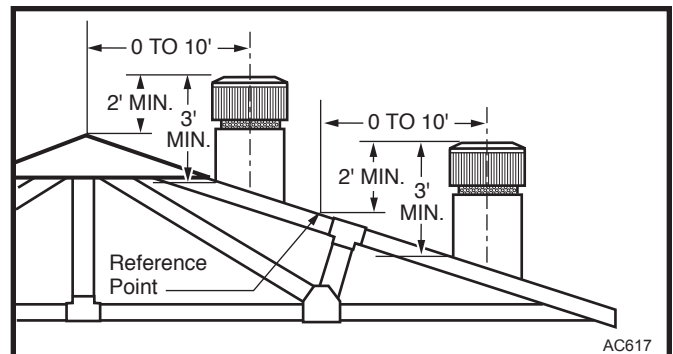

Fig. 3 The Ten Foot Rule.
These minimum dimensions are recommended in the interest of safety; they do not assure a smoke-free operation. (Fig. 3)
12. Any chimney enclosure must also meet the minimum air space requirements of the chimney intermediate sections as noted on the label. The chimney enclosure sides and top may be made of combustible materials as long as the required clearances are maintained. The top of the enclosure must be covered with a noncombustible material. Also, read "The Ten Foot Rule" on page 1 of this installation sheet. (Fig. 3)